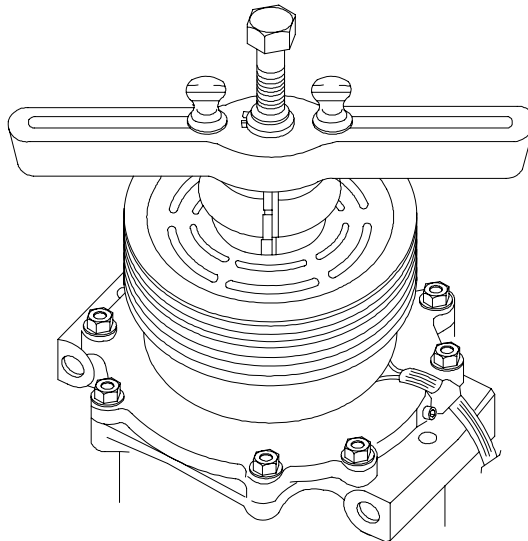

Figure 15 Rotor Assembly Removal
44. **Rotor Assembly Removal.** To remove the rotor assembly, proceed as follows (refer Figure 15):